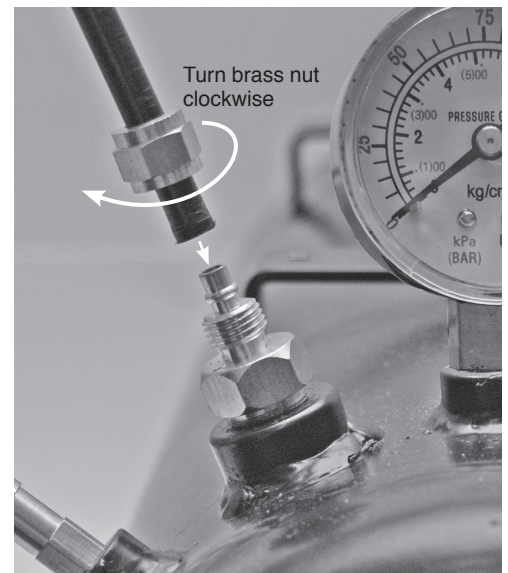

Fig. 4 Connecting the high-pressure plastic hose
HOSE INSTALLATION (Fig. 3 and Fig. 4):
- Using the high-pressure plastic hose provided, cut to size to be able to connect the tank to inlet fitting of the accessory or valve requiring high-pressure air. Place the brass nut from the tank's outlet fitting onto the high-pressure plastic hose. Push the plastic hose fully onto the outlet fitting, tighten the brass nut onto the outlet fitting. (Fig. 4 and 5)